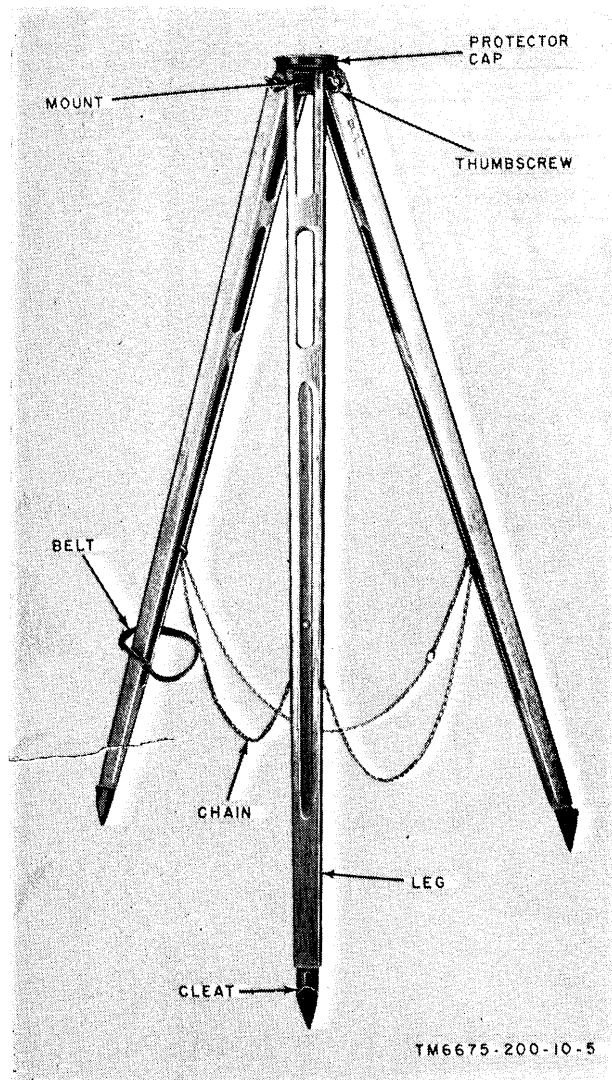

Figure 5. Tripod.
14. Erecting Tripod (fig. 5)
f. Screw the theodolite to the tripod mount (fig. 5) by turning the leveling plate clockwise.